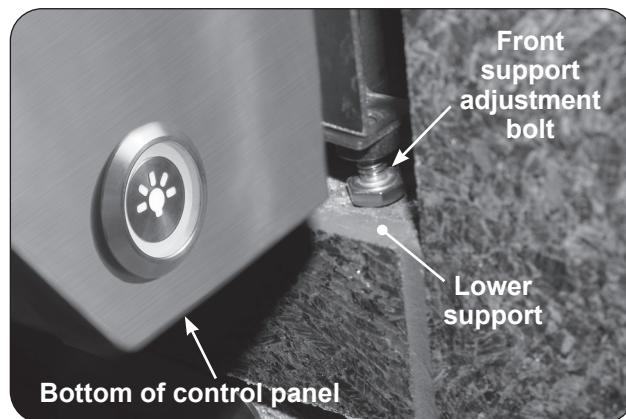

Fig. 29-1 Front support adjustment bolts
3. Rotate the front support adjustment bolts (up or down) until the grill hanger rests flush on the countertop, AND, the adjustment bolts are touching the supporting structure found at the bottom of the cutout (lower support). Use a 7/16" open-end wrench as needed. See Fig. 29-1.